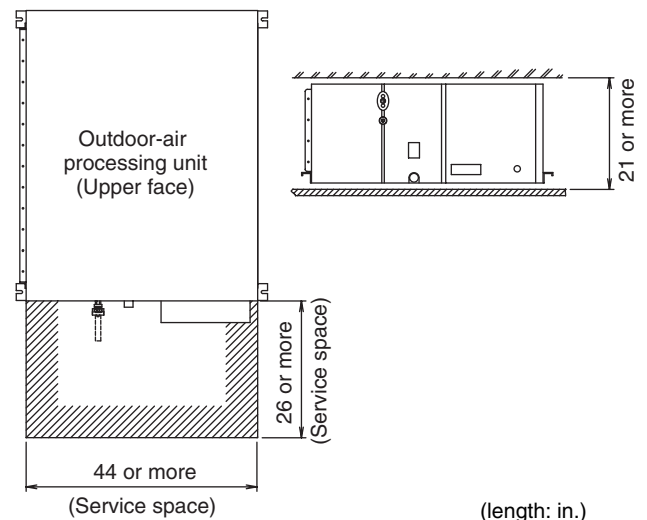

Fig. 1
- (1) Select an installation site where the following conditions are fulfilled and that meets with your customer's approval.
- Where sufficient clearance for maintenance and service can be ensured. **(Refer to Fig. 1)**